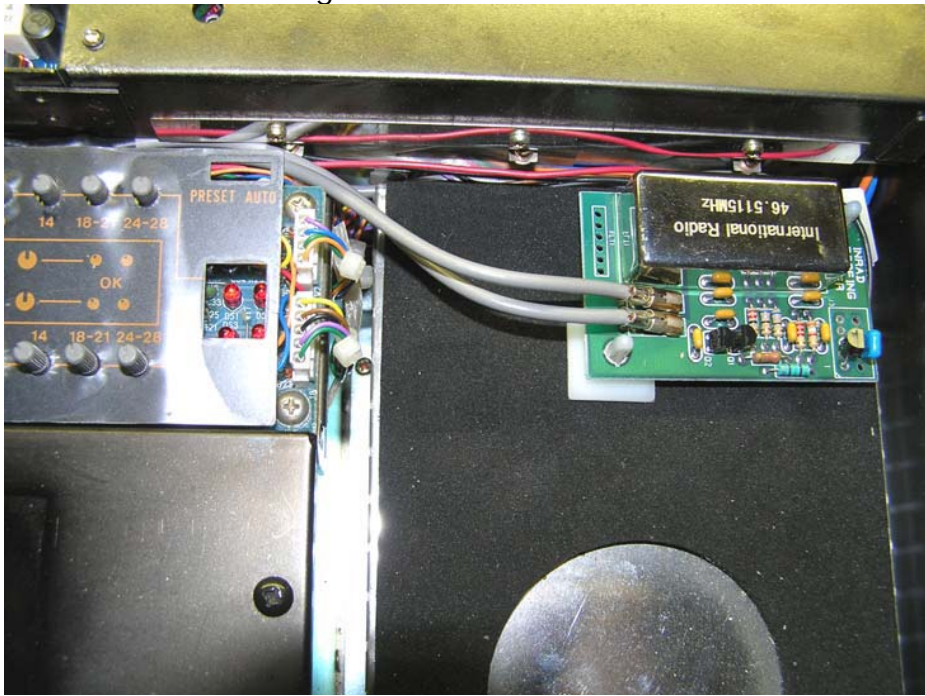

Figure 4 – W23 Location
10. Remove wire W23 as seen in Figure 4.